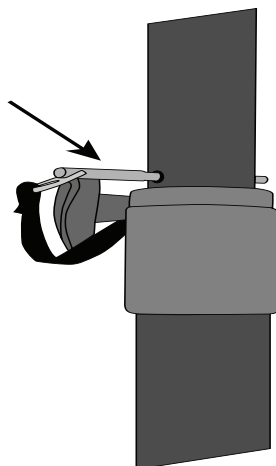

figure 1
3. Insert safety pin at an appropriate level. (see figure 1)